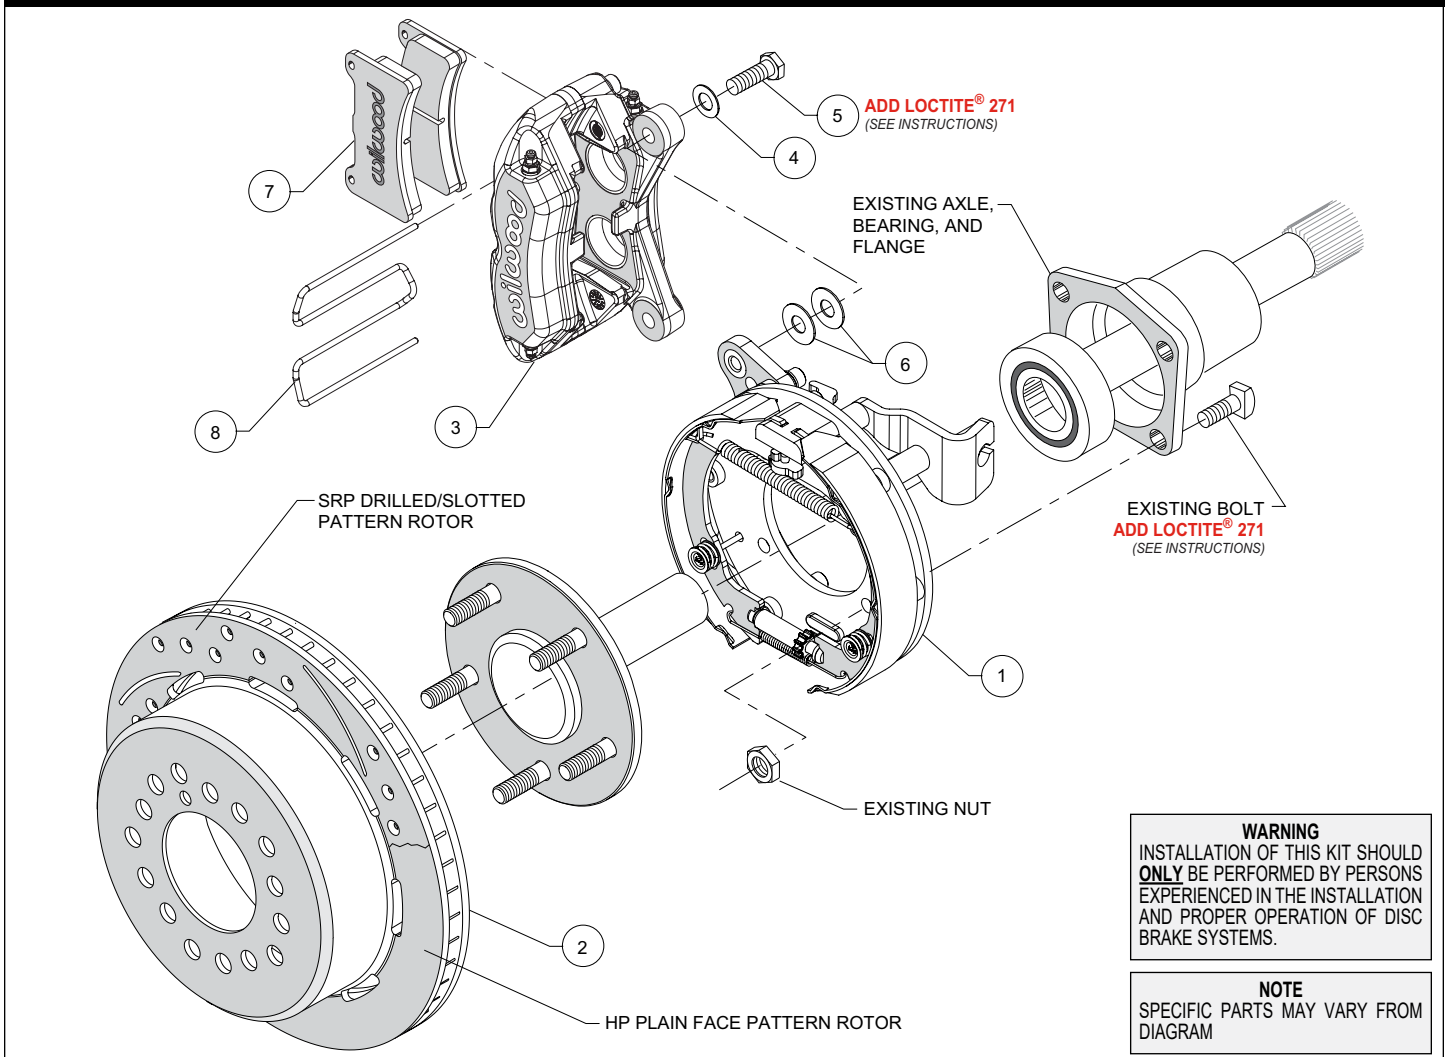
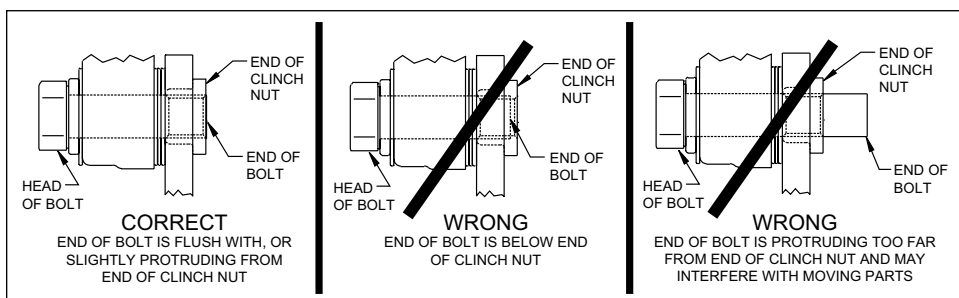

Figure 1. Typical Installation Configuration
Figure 4. Clinch Nut Engagement Diagram
NOTE: Numbers in parenthesis refer to the parts list and Figure 1 on the preceding pages.
CAUTION: All mounting bolts must fully engage clinch nuts. Be sure to check that all bolts are either flush or protruding through flanged side of clinch nut after shimming, Figure 4.
- Orient the bracket assembly (1), as shown in Figure 1, and mount to the axle housing flange using the Original Equipment Manufacturer (OEM) bolts and nuts, Figure 1. Ensure that the bracket assembly backing plate fits flush against the axle housing flange. Apply red *Loctite*® 271 to the OEM bolt threads and torque to OEM specifications.
- Align the correct hole pattern in the rotor/hat (2) with the stud pattern on the axle flange and slide into place, Figure 1 and Photo 1. **NOTE:** The rotor/hat must fit flush against the axle flange or excessive rotor run out may result. Install three lug nuts (finger tight) to keep the rotor/hat assembly in place while continuing with the installation. **NOTE:** Some OEM and after market axles come with stud sizes larger than 0.50" diameter. Verify stud size and have a qualified machine shop drill the bolt circle of the hat/rotor to the correct stud size, if necessary.
- NOTE:** Please reference the caution statement at the beginning of the assembly instructions. Mount the caliper (3) onto the caliper mounting bracket (1) using bolts (5) and washers (4), as shown in Figure 1. Initially place two .035" thick shims (6) on each bolt between the caliper and the bracket, Photo 2. Temporarily tighten the mounting bolts and view the rotor (2) through the top opening of the caliper. The rotor should be centered in the caliper, Photo 3. If not, adjust by adding or subtracting shims between the bracket and the caliper. Always use the same amount of shims on each of the two mounting bolts. **NOTE:** The end of each bolt must be flush with or slightly protruding from the head of the clinch nut, as shown in Figure 4.